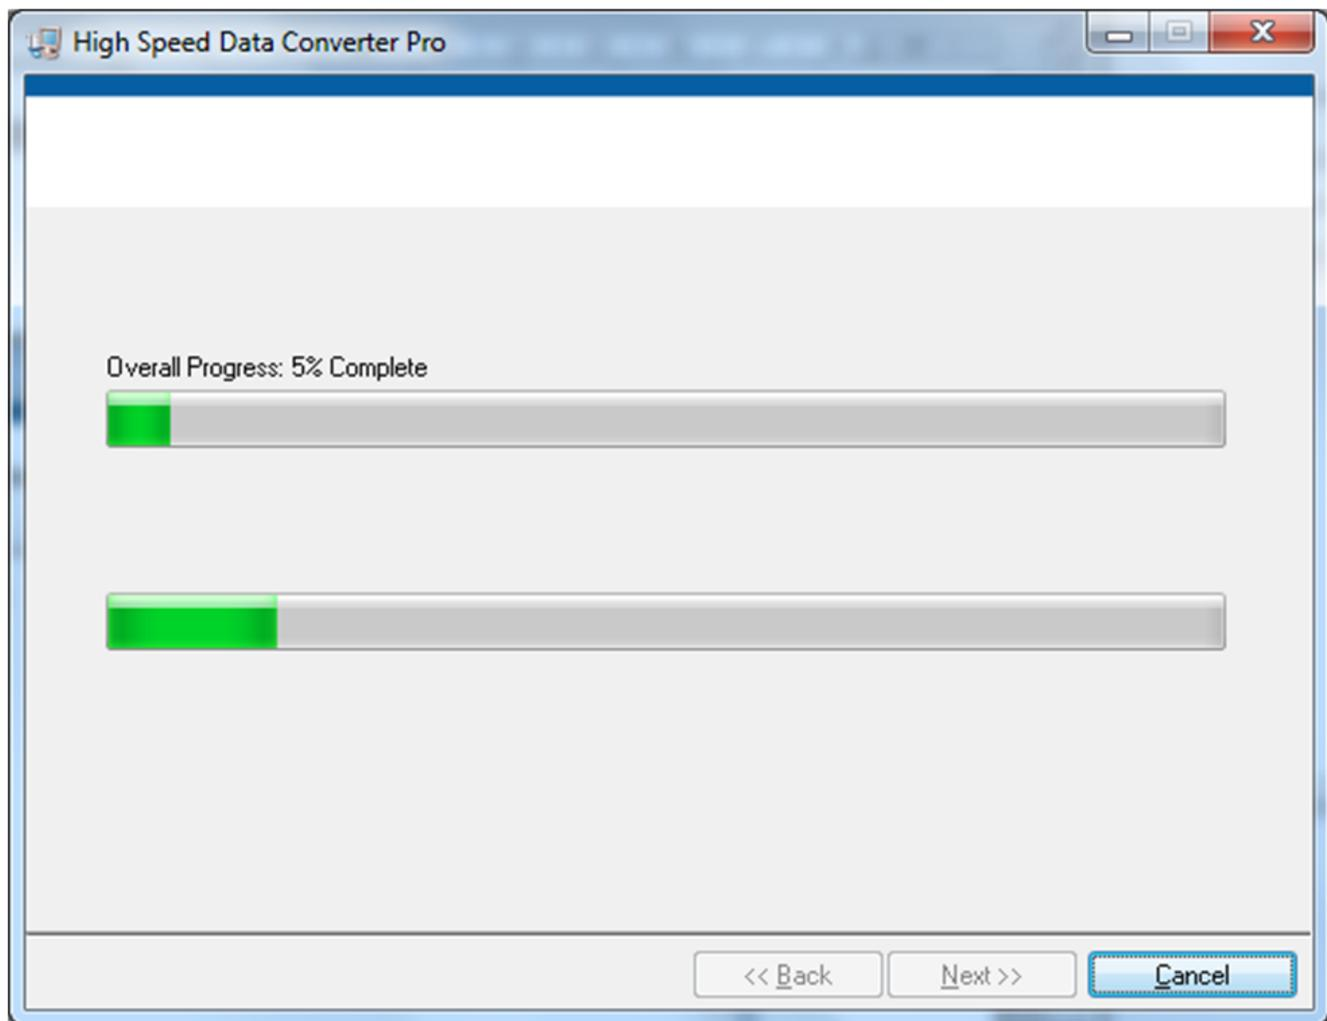

Figure 47. HSDCPro Install (Installation Progress)
- The window shown in Figure 47 should appear indicating that the installation is in progress.